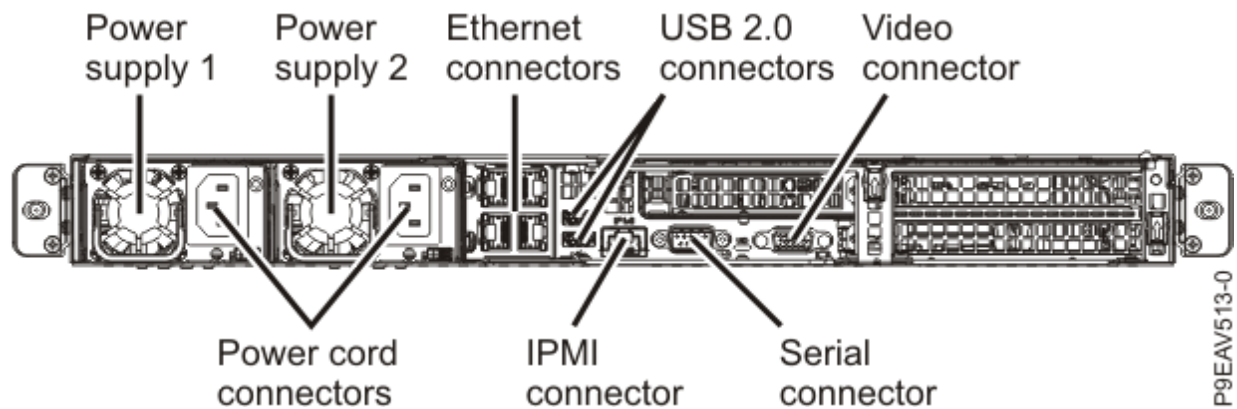

Figure 27. PCIe adapter positions
2. Refer to the PCIe adapter position as shown in Figure 27 on page 31.